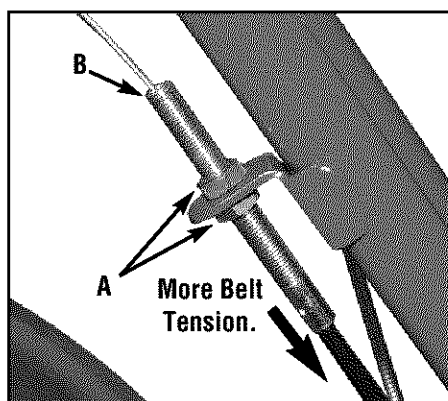

Figure 5-12: Move forward clutch cable adjuster down for more belt tension.
2. Belt adjustments are done with the forward clutch cable adjuster (F, Figure 5-10). Use two 1/2", open-end wrenches to loosen the two jam nuts (A, Figure 5-12) a few turns.
3. Move cable adjuster (B, Figure 5-12) downward for more belt tension (see Figure 5-12).